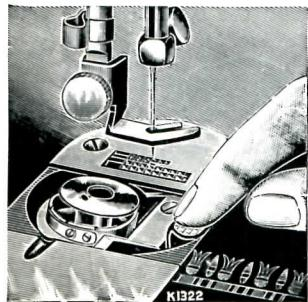
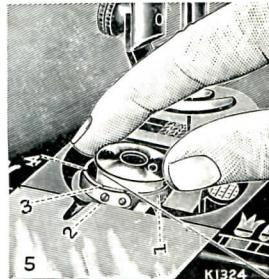
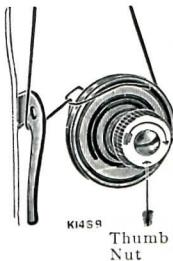

Fig. 4
Fig. 6
Fig. 11
Do not work the machine with the bobbin case (1, Fig. 6) and the needle threaded, except when sewing.
The slide (5, Fig. 6) must be kept closed.
Draw the slide (5, Fig. 6) to the left and press the forefinger of the right hand upon the bobbin ejector, as shewn in Fig. 4; this will raise the bobbin so that it can be easily taken out.
(See Fig. 6).
Take the bobbin between the thumb and forefinger of the right hand, with the end of the thread drawing from the top to the left, and in this position replace it in the bobbin case, as shewn in Fig. 6. With the left hand draw the thread into the slot (3), then back between the spring and side of bobbin case until it reaches the notch (4); then across the bobbin towards the needle. Thereafter close the slide (5).
Raise the needle to its highest point and remove the slide (5, Fig. 6) by raising its front edge.
A correct stitch can usually be obtained by varying the tension on the needle thread (see Fig. 11).—To increase the tension, turn the thumb nut in the direction illustrated by the arrow, or to lessen the tension, turn the nut in the opposite direction. All machines are correctly adjusted before leaving the factory, and it is therefore seldom necessary to alter the under tension. Should it become necessary to do so, however, tighten the tension spring screw (2, Fig. 6) on the left hand side of the bobbin case to increase the tension, or loosen the screw slightly to lessen the tension.